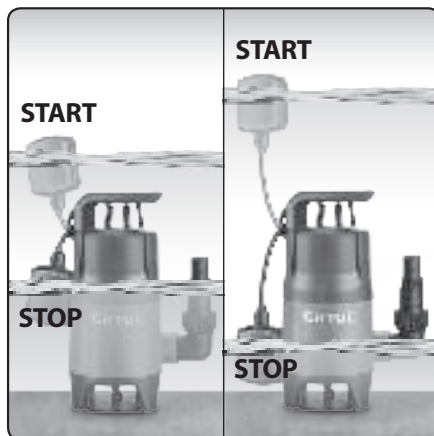

Fig. 2
- ➔ The adjustable length of the float cord makes it possible to set the water level at which the pump will start and stop, see Fig.2.
- For the float switch to function correctly, the distance between the float switch and the float switch fixture must not be too small. The described principle is shown in Fig. 2.
- The operation of the pump's electric motor is automatically controlled by the position of the float switch relative to the level of the liquid being pumped, see fig. 2.